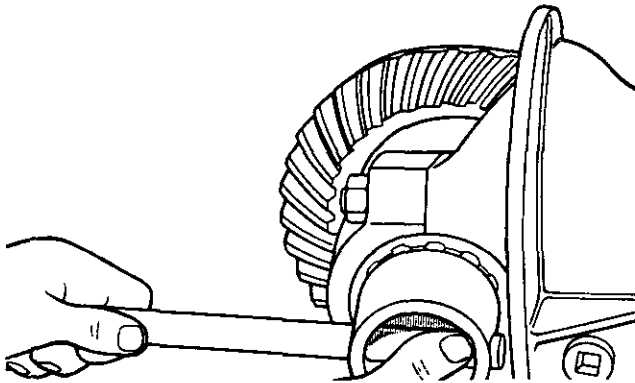
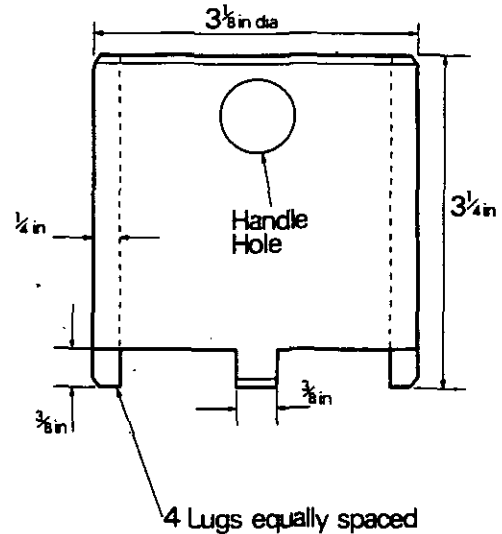

FIGURE 8.
FIGURE 9.
Removing Differential Unit: Slacken the nut on the end of the bevel pinion before removing the differential unit. The bearing adjuster lock plates (2 off) should be removed and the two remaining bearing cap nuts should be slackened. Unscrew the bearing adjuster wheels to relieve bearing load (see Figure 8) with a tool to the dimensions shown in Figure 9. The bearing caps may now be removed followed by the differential unit from the carrier.
B. Wrench—see fig. 9